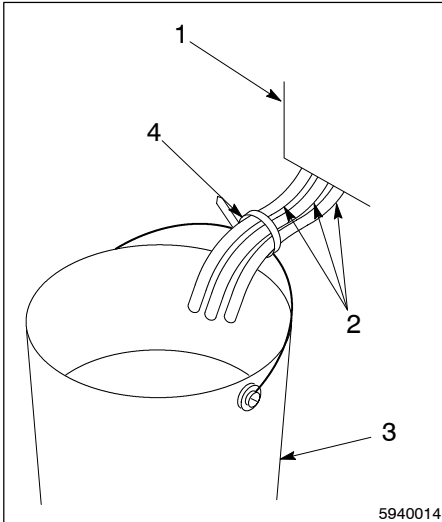

Fig. 3-25 Hose Drain Bucket
3. Disconnect all hoses from their guns, and referring to Figure 3-25, place the end of these hoses in a bucket or similar container. However, be careful that you secure and position the ends of the hoses so that they will not be covered with adhesive during the flushing operation.